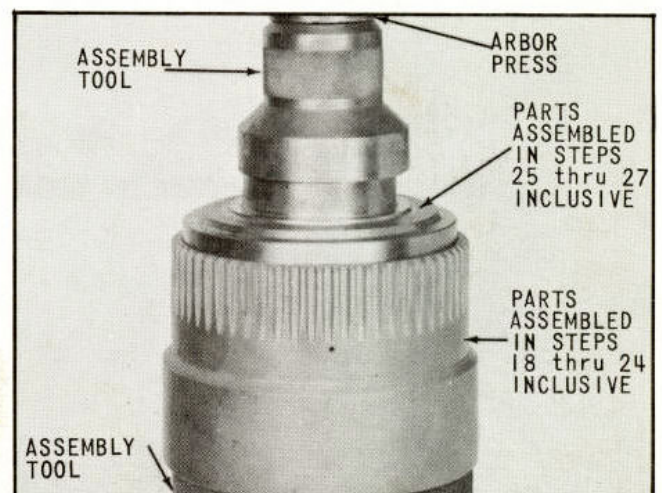

Fig. 37 Pressing Forward Clutch Hub into Ring Gear
(Fig. 37). Center the clutch spring in the ring gear.
29. Place the parts assembled in steps 25 through 27 inclusive into the open top of the assembly described in step 28, (Fig. 37). Place a suitable assembly tool squarely on top of the forward clutch cylinder and press down with the arbor press until the forward clutch cylinder is firmly seated on the snap ring and the groove for the snap ring is fully exposed. Check, by looking into rear of ring gear, to be sure that the clutch spring bearing ring is properly assembled on the forward clutch piston.